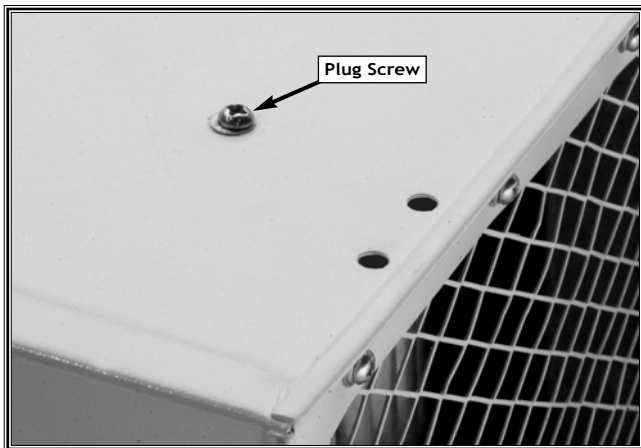

Figure 7. Plug screw.
2. Remove the plug screw. Retain the screws because if you remove the eye bolts for the flush mounting configuration, you must reinstall these screws to seal the air cleaner unit. See **Figure 7**.